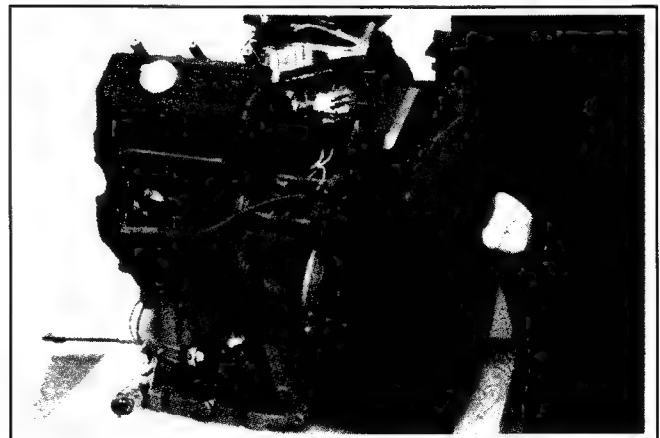

Figure 9-10. Removing Blower Housing.
1. If the rectifier-regulator is mounted to the blower housing, remove the left screw to disconnect the ground lead. Remove the blower housing by removing the six hex. flange screws and two hex. flange nuts (in recesses at top front of housing). Make note of location of the two shorter screws. See Figure 9-10.